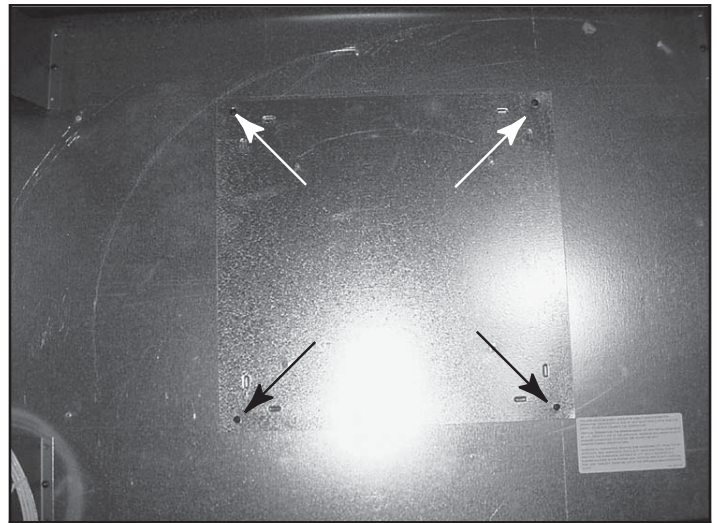

Figure 7.12 Attach Outer Shell Cover
- Locate outer shell cover removed in the fourth step (Figure 7.4). Place the cover on top of appliance. Replace four screws to hold plate in place. See figure 7.12. (Cover has insulation attached.)